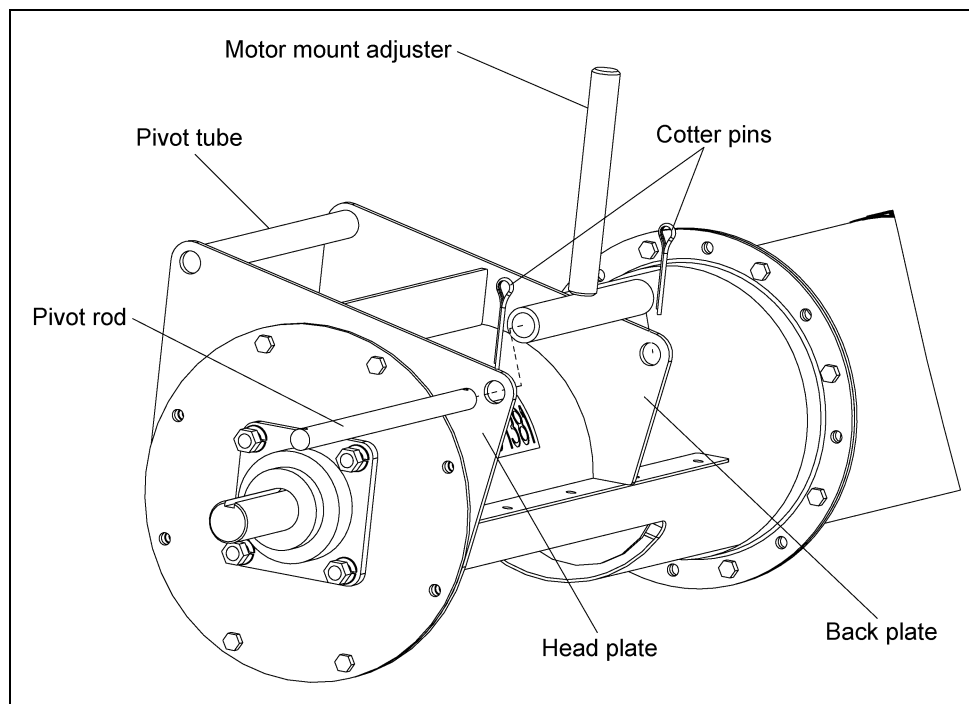

Figure 4J
- B. Insert pivot rod through the tube plates and motor mount adjuster. Secure in place with two (2) 3/16" x 2" cotter pins. (See Figure 4J.)